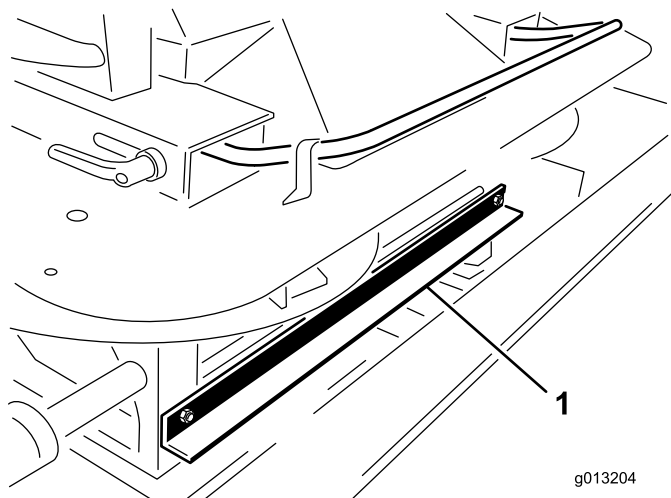

Figure 4
3. At the front of the twin spinner, remove the 2 bolts and nuts attaching the machine lifting device shipping bracket to the twin spinner (Figure 4).